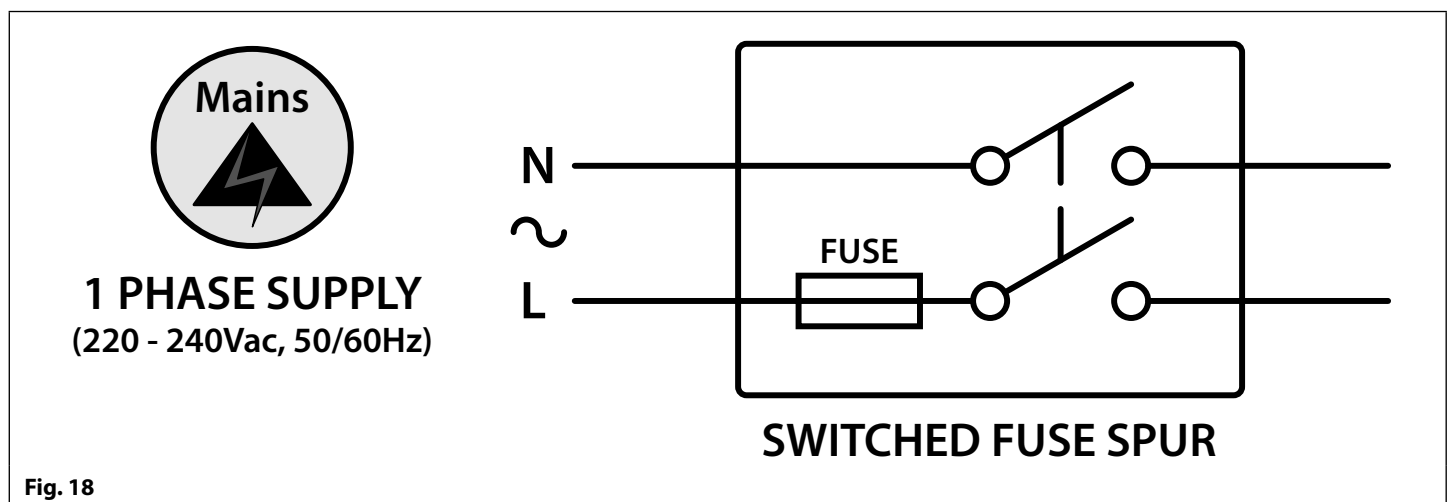

Fig. 18
- Connecting the system to the mains through an all-pole circuit breaker (refer to **Fig.18**) which shall have contact separation of at least 3mm in each pole and shall disconnect all poles simultaneously.